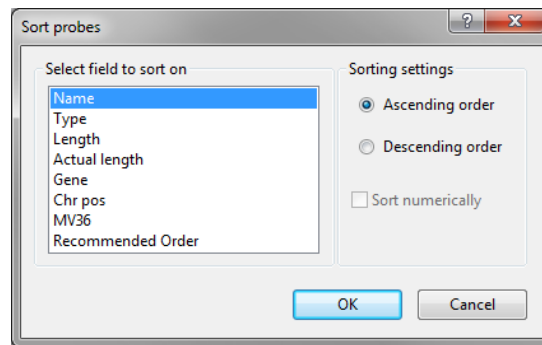

Figure 3.6: The *Sort probes* dialog box.
Probes can be sorted according to any of the available information fields. Pressing the **<Sort probes>** button displays the *Sort probes* dialog box (see Figure 3.6).
3.5 For the MLPA example data, press <**Sort probes**> in the *Probes tab* to call the *Sort probes* dialog box (see Figure 3.6).